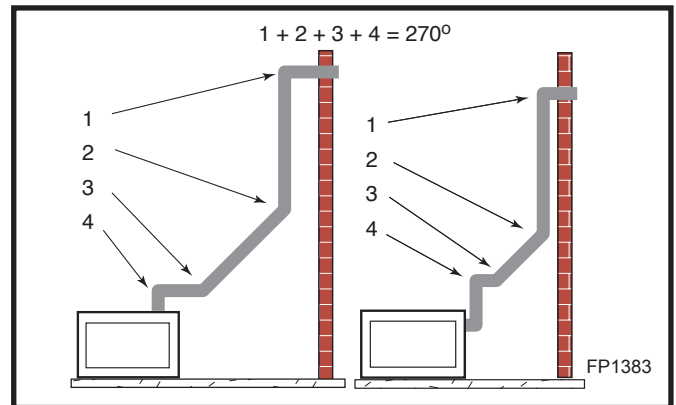

Fig. 22 Maximum number of elbows allowed.
- The maximum number of 45° elbows permitted per side wall installation is two (2). These elbows can be installed in either the vertical or horizontal run.
- The maximum number of elbow degrees in a system is 270°. (Fig. 22)
Example: In Fig. 22